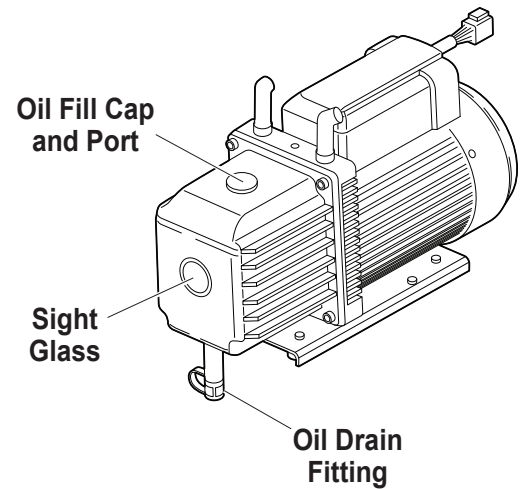

Figure 11
4. Slowly open the oil fill cap to verify there is no pressure in the machine. Then carefully remove the cap. See Figure 11.